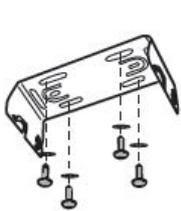
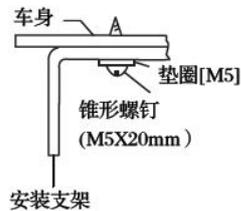

Fig. 1
Fig. 2
1. Use the supplied self-tapping screws (4X) and flat washers (4X) to install the mounting bracket in the vehicle as shown in Fig. 1 and Fig. 2.